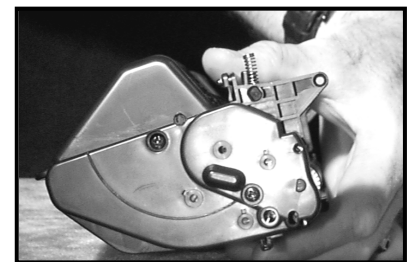
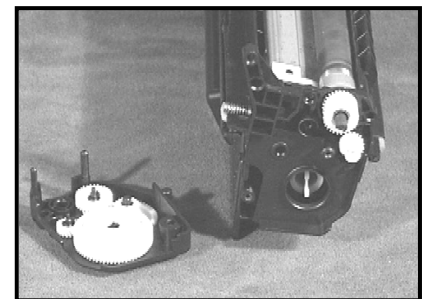

Figure 12
Figure 13
2. Place the toner hopper on the work area with the magnetic roller facing you. Remove the two (2) screws from the left side of the cartridge (Fig. 12). Next, remove the left end-cap in an up-right position to prevent the gears from falling off (Fig. 13).